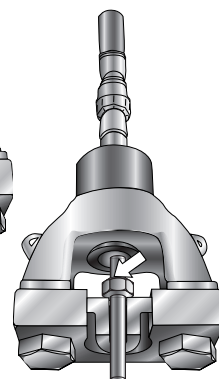

Figure 4
4. Close the pressure relief valve on the side of the hand pump. Pump the hand pump until the ram reaches a positive stop. At this point an increase in resistance of the handle will be felt and the nut will bottom against the shoulder of the body die (Figure 4).